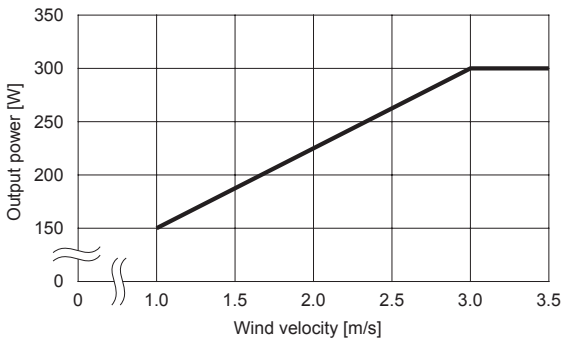

Fig.3.4 The maximum output power by wind speed conditions
*Maximum power with Forced air (Fig.3.4)